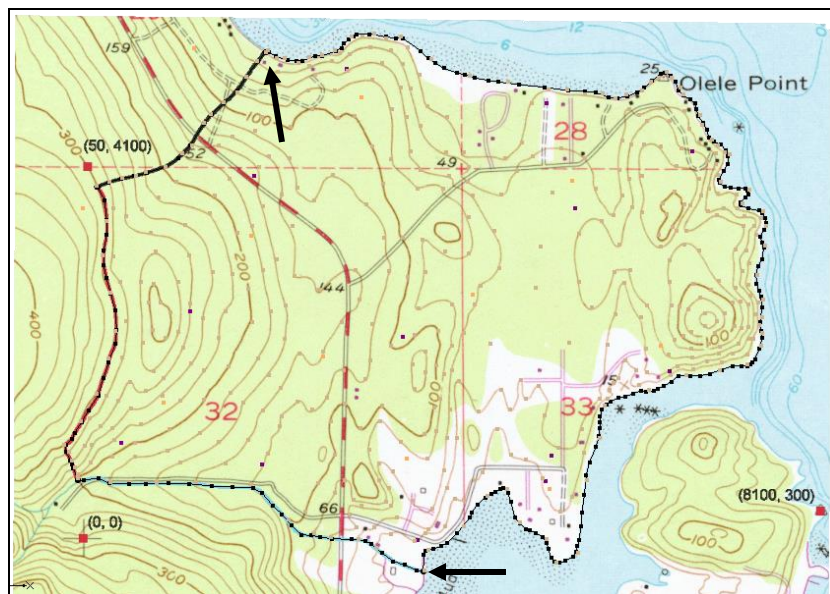

Figure 2 Coastline boundary arc
5. Create an arc for the coastline boundary (between the arrows in Figure 2). Once again, be sure the arc is connected to the other boundary arcs.